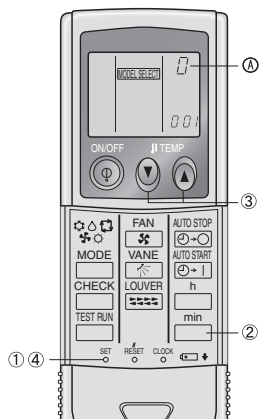

Fig. 6-9
- ① Press the SET button with something sharp at the end. Operate when display of remote controller is off. **MODEL SELECT** blinks and Model No. is lit Ⓐ.
- ② Press the AUTO STOP Ⓞ button. **MODEL SELECT** blinks and setting No. is lit Ⓑ. (Setting No.01: without automatic fan speed)
- ③ Press the temp. \uparrow \downarrow buttons to set the setting No.02. (Setting No.02: with automatic fan speed) If you mistook the operation, press the ON/OFF Ⓞ button and operate again from procedure ②.
- ④ Press the SET button with something sharp at the end. **MODEL SELECT** and Model No. are lit for 3 seconds, then turned off.
3) Assigning a IR wireless remote controller to each unit (Fig. 6-9)
4) IR wireless remote controller pair number setting operation (Fig. 6-9)
- ① Press the SET button with something sharp at the end. Start this operation from the status of IR wireless remote controller display turned off. **MODEL SELECT** blinks and Model No. is lit.
- ② Press the min button twice continuously. Pair No. "0" blinks.
- ③ Press the temp. \uparrow \downarrow buttons to set the pair number you want to set. If you mistook the operation, press the ON/OFF Ⓞ button and operate again from procedure 2.
- ④ Press the SET button with something sharp at the end. Set pair number is lit for three seconds then turned off.